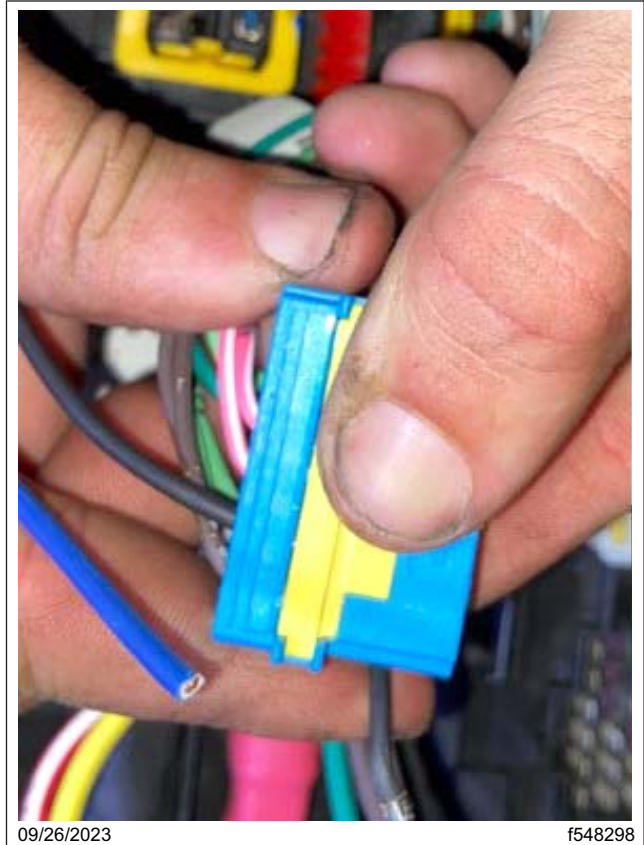

Fig. 30, Engaging the Lock on the SSAM X2 Connector
- 9.5 Squeeze the yellow locking tab back into the connector to lock it. See **Fig. 30**.